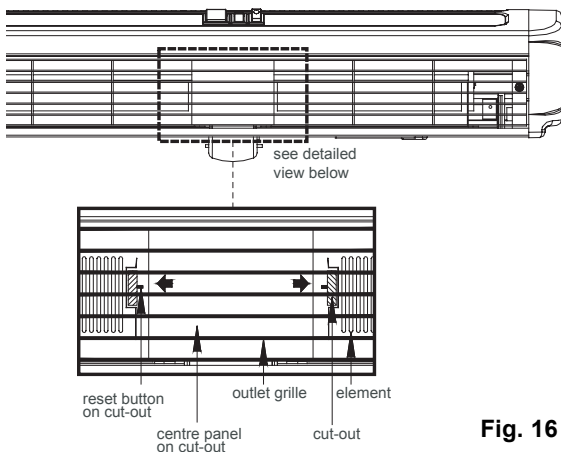

Fig. 16
3. Press buttons in directions shown to reset cut-outs (see Fig.16). Cut-out clicks when reset.